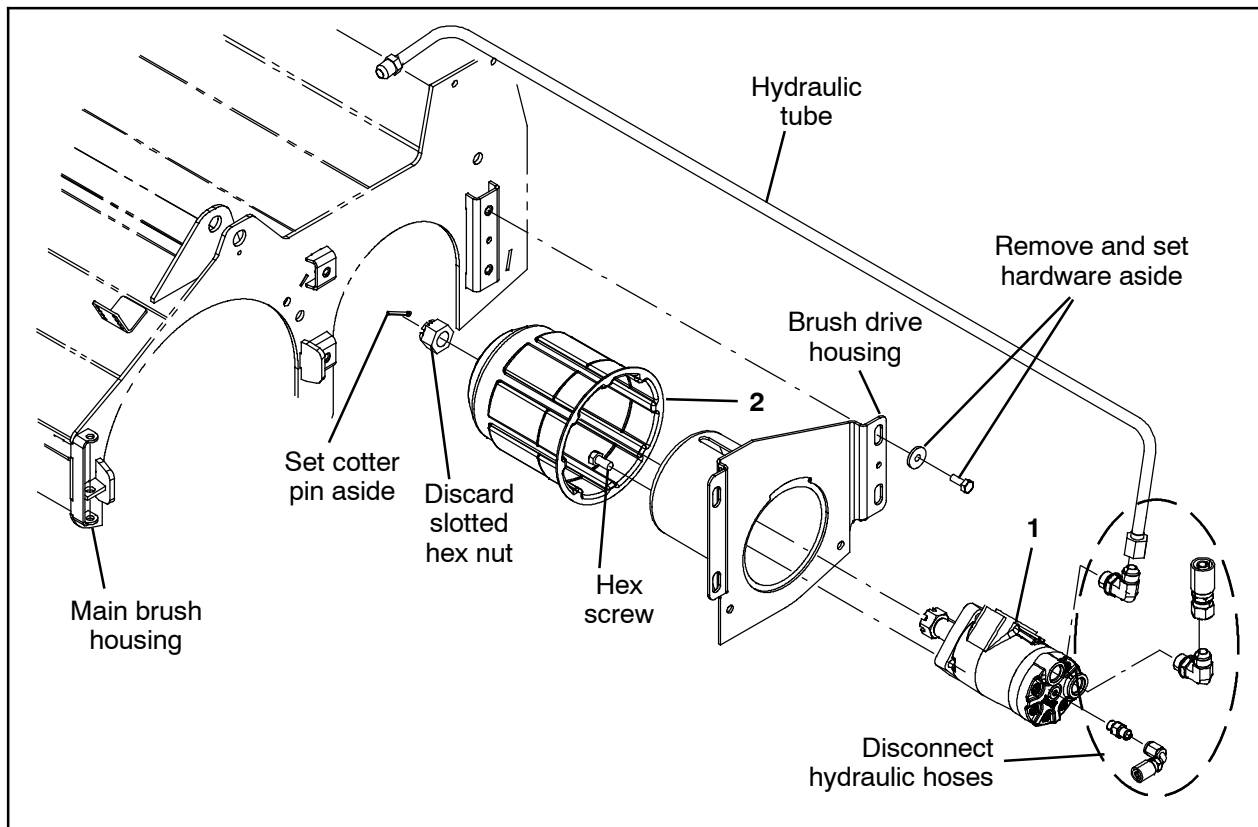

FIG. 4 - M20 / M30 / T20
NOTE: Refer to Fig. 4 to install the brush drive motor (1) and brush drive plug (2) onto the M20 / M30 / T20.
5. Install the new brush drive motor (1) onto the brush drive housing.
6. Install the key into slot on brush drive motor (1) shaft.
7. Install the brush drive plug (2) onto the brush drive motor (1) and brush drive housing.